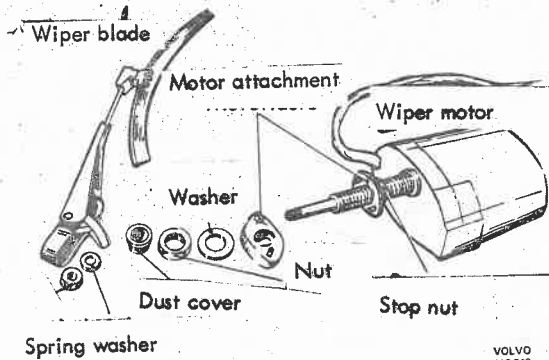

Fig. 36-22. Headlamp wiper, complete
3. Remove the dust cover, nut, washer and spacer, also lift forwards the wiper motor, see Fig. 36-22.